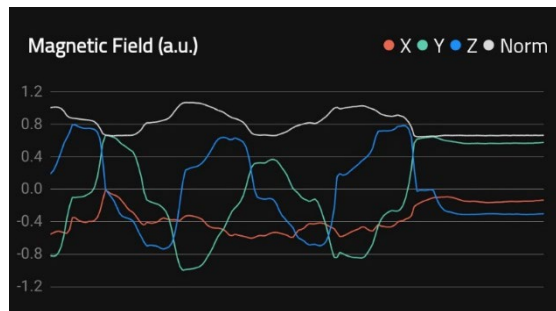

Figure 6 Norm fluctuate when rotating
- fluctuation when rotating the sensor in different directions, see Figure 6